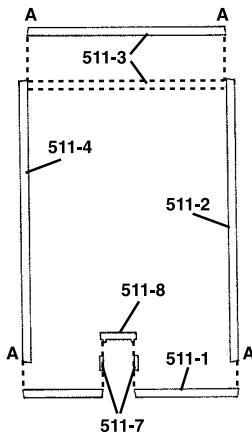

Fig. 1
1. The edges of all parts are angled (draft angle) so they can be removed from the mold. It is necessary to remove this angle from the front edges of the side walls 511-2 and 511-4 and both edges of the back wall 511-3 to allow flush fit with adjoining walls. Note: The edges to be squared do not have brick detail and are marked "A" (Fig. 1). To square the edges, thumbtack a piece of 150 grit sandpaper to a board and push and pull the part back and forth evenly on the sandpaper until the edge is square with the wall (Fig. 2).
2. Cut two entry door side panels 511-7 from white styrene stock (.156" x .02"). Make them the same height as the entry door casting 511-8. Glue side panels to entry door as shown (Fig. 1 and 3). Now glue fronts of side panels to back of entry door on building front.